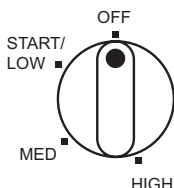

Figure 8 - Control Knob Positions
6. Turn control knob to the low position and push in (see Figure 8). Hold knob in and push piezo ignitor button. You may need to push piezo ignitor button 3-8 times until the main burner lights. When main burner lights, keep automatic control valve knob pushed in. Release button after 30 seconds.